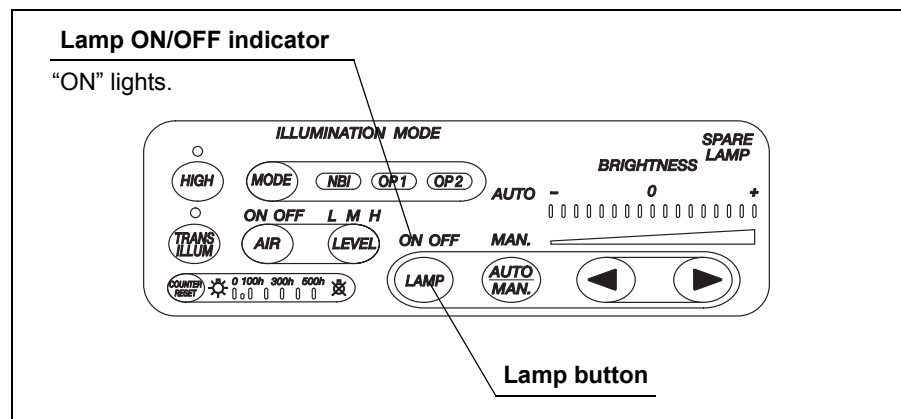

Figure 3.5
1. Press the lamp button if the examination lamp is OFF and confirm that the lamp ON indicator lights up (see Figure 3.5).